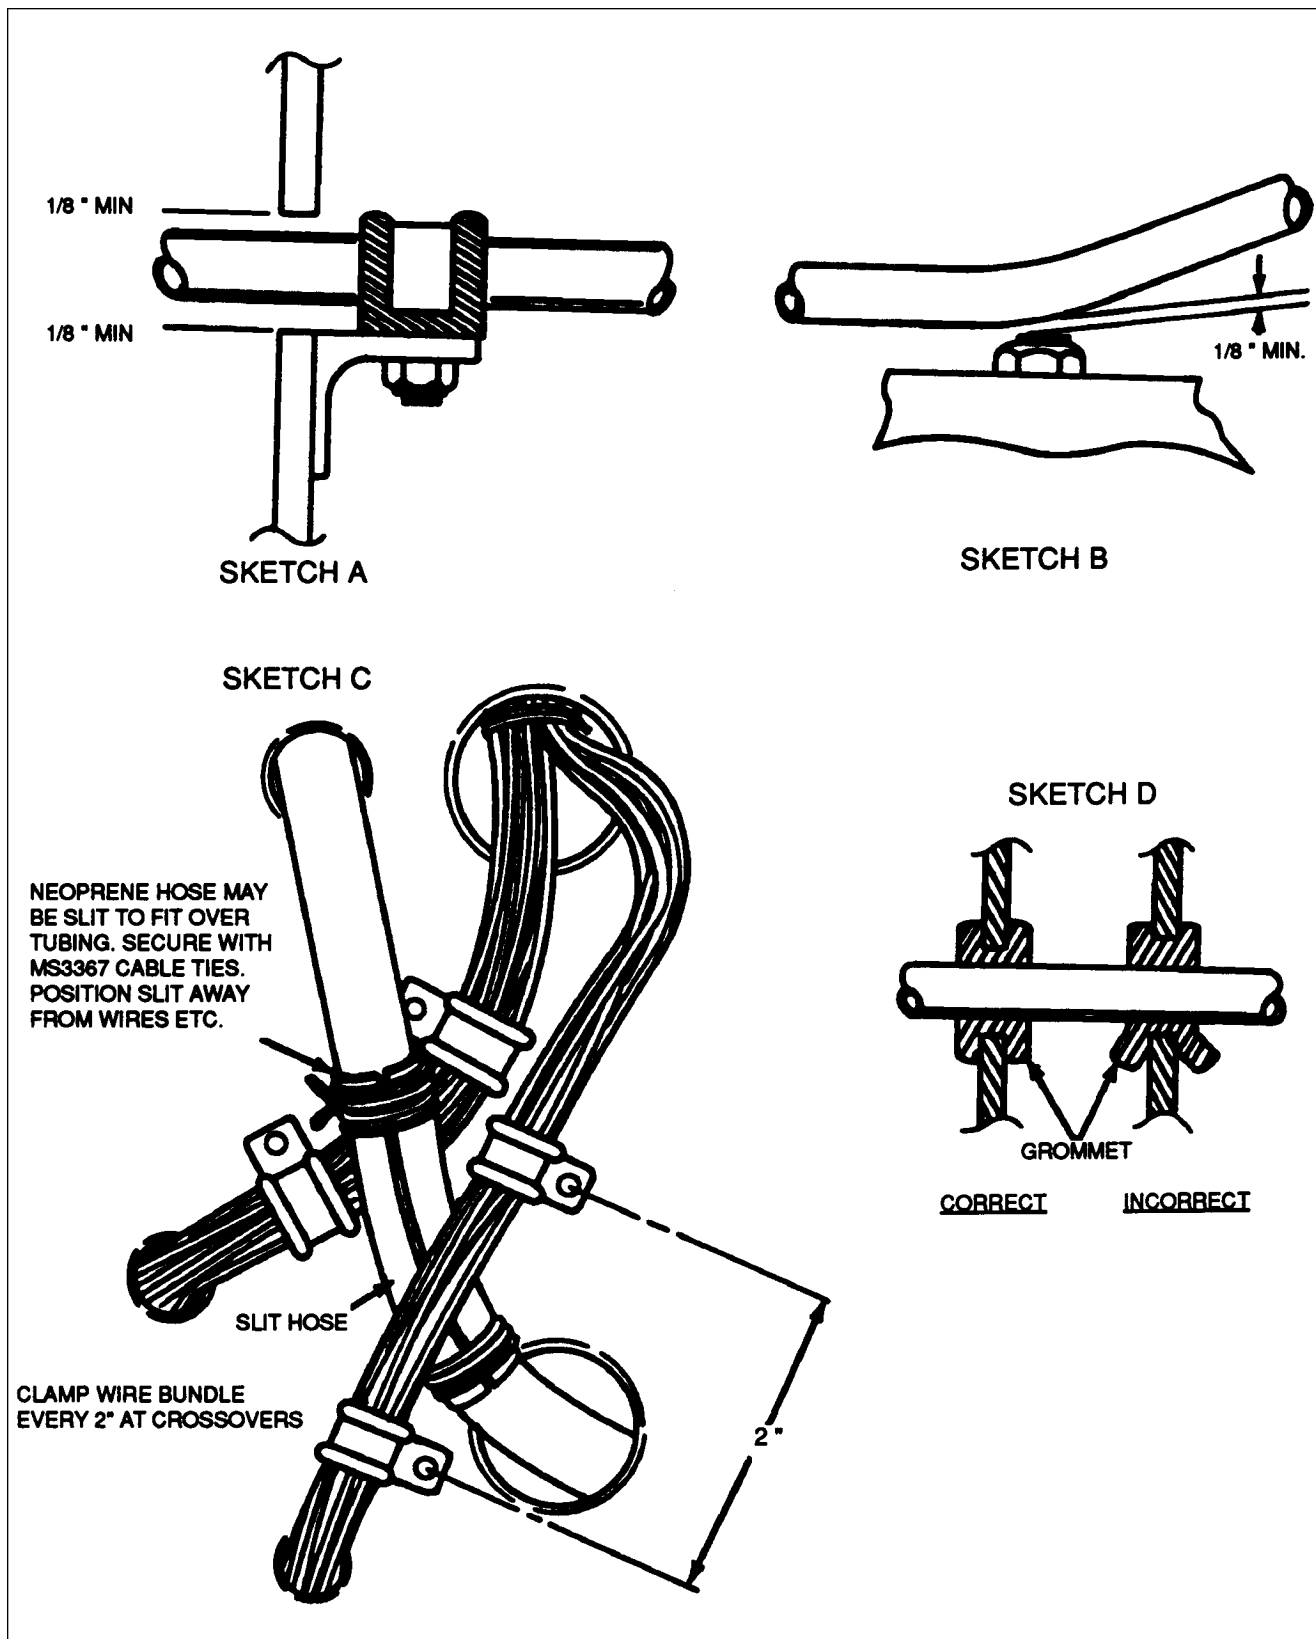

Figure 14-18. Oxygen Tubing Installation
- d. A minimum of 1/8 inch between tubing and structure adjoining the supported clamp, as shown in Figure 14-18, Sketch A.
- e. Where a tube passes through a grommet, the tube must not bear on the grommet in any way that might cause cutting of the grommet in service as shown in Figure 14-18, Sketch D.
- f. While in service, items may receive vibrations causing them to come in contact with other parts of the aircraft. With this in mind, low pressure tubing that is supported well enough to prevent relative motion must have at least a minimum clearance of 1/8 inch from a projection (bolt, nut, etc). Low pressure tubing that cannot be supported well enough to prevent motion must have a minimum clearance of 1/8 inch allowed after the maximum travel of the tube. High pressure lines are affected similarly but require 1/2 inch clearances. Refer to Figure 14-18, Sketch B.